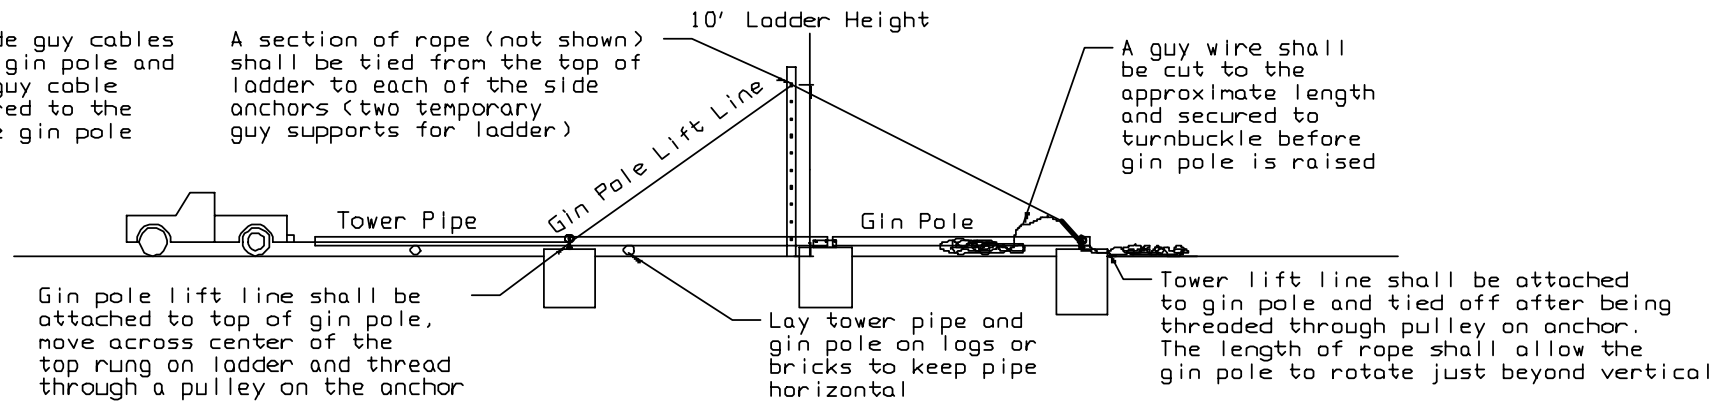

Figure 10
When you finish assembling the gin pole and tower pipe the installation should look like Figure 10. Remember to have on hand wood pieces or bricks to support the pipe sections 7 inches above ground. This is important since you do not want to be moving the tower and lift-pipe sections around. They are very heavy!
2. The first step to raising the tower is to raise the gin pole. The gin pole for the 30' 175 tower weighs over 250 pounds so a secondary gin pole is necessary to raise the gin pole. One option for this secondary gin pole is to use a 10' ladder with a minimum rating of at least 250 pounds (see Figure 10). Do not use a stepladder for this because it must be able to rotate on its base. The ladder should straddle the tower pipe and be located near the tower base. An extension ladder with the proper rating should work just fine. The ladder should be given side-to-side support by tying a rope from the top of the ladder to each of the side anchors. This rope should have a minimum breaking strength of 4000 lbs. These two ropes will prevent the ladder from falling to either side during the gin pole erection. If a ladder is not available, then an A-Frame can be built out of 2x4s (see Figure 15).
4. Connect the gin pole lift line to one of the turnbuckles on the gin pole. The minimum breaking strength for this rope must be 4000 lbs. The gin pole lift rope is then run across the top rung on the ladder before it goes through a pulley connected to the anchor. This pulley must be rated for at least 3000 lbs. The end of this rope should be attached to the bumper on the vehicle raising the gin pole. An alternative to a vehicle is to use an appropriately sized winch connected to the anchor (see Figure 10).